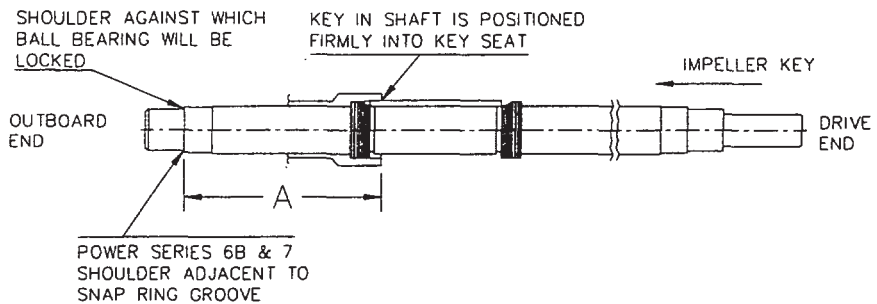

Figure 2 Shaft Sleeve Location-CCW Rotation
- B. For CW rotation pumps, thread the in-board sleeve onto shaft until distance *A* is obtained (Refer to figure 2). For CCW rotation pumps, thread the out-board sleeve until distance *A* is obtained (Refer to figure 3). When the sleeve is in position its keyway should align with keyway on shaft. Coat key and keyway with Loctite Sealant Grade 242. Insert key into keyways of shaft and sleeve. Tap it firmly in place.